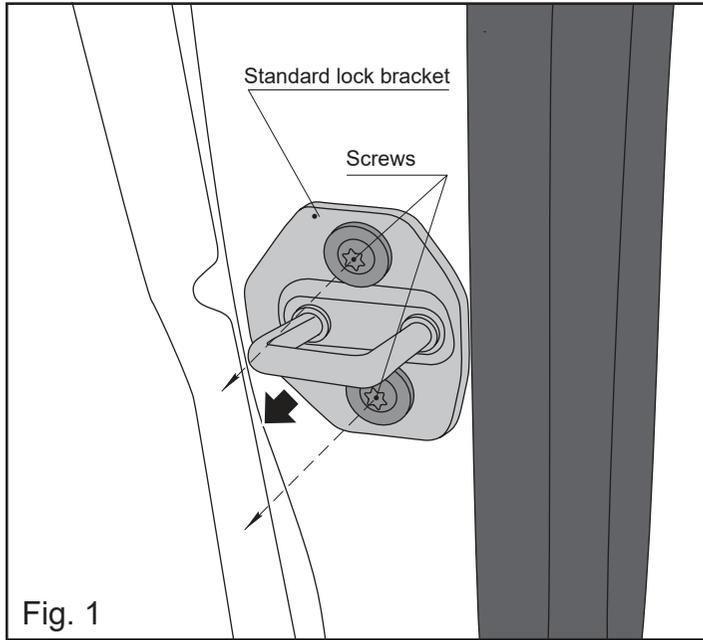

Fig. 1
1. Remove the standard lock bracket by removing the two fixing screws (Fig. 1).